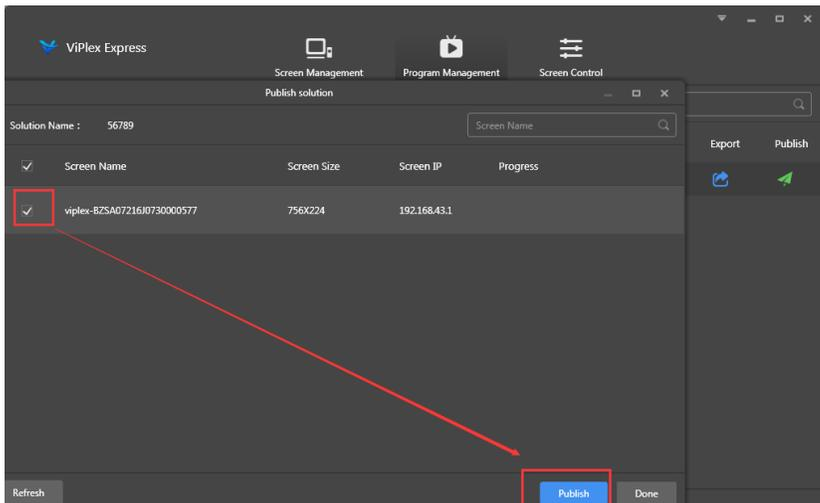

fig7.10
i. Select the LED poster, click [Publish] shown in fig 7.10 to upload the playlist.